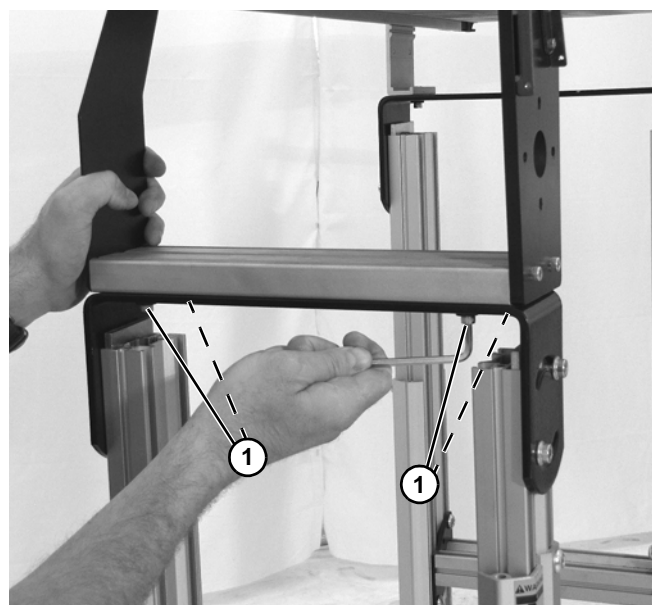

Figure 19
14. Mount assembly to support structure with four hard washers and screws (**Figure 19, item 1**). Tighten to 80 in-lb (9 Nm).